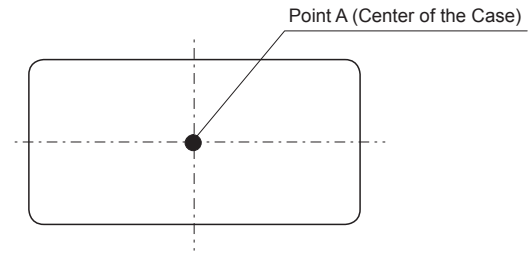

Fig.8.12 Temperature Measuring Point on the case (Top View)
■ Please have sufficient ventilation to keep the temperature of point A in Fig.8.12 at Fig.8.13 or below.